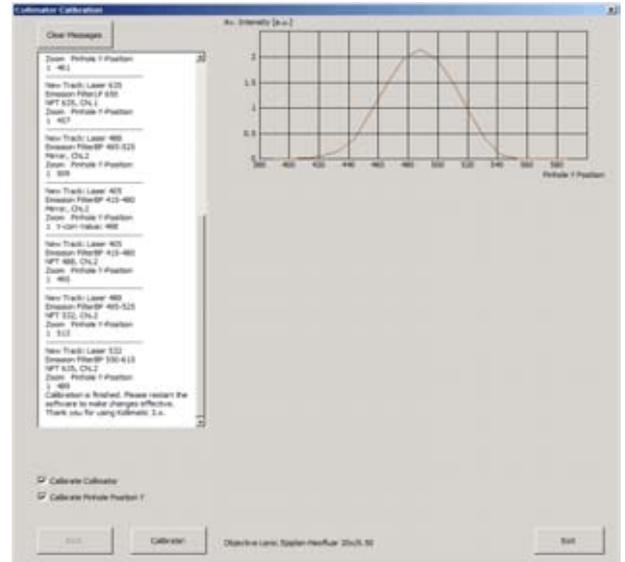

Fig. 4-179 Collimator Calibration Window
- Make sure that both check boxes have been selected (Fig. 4-179)